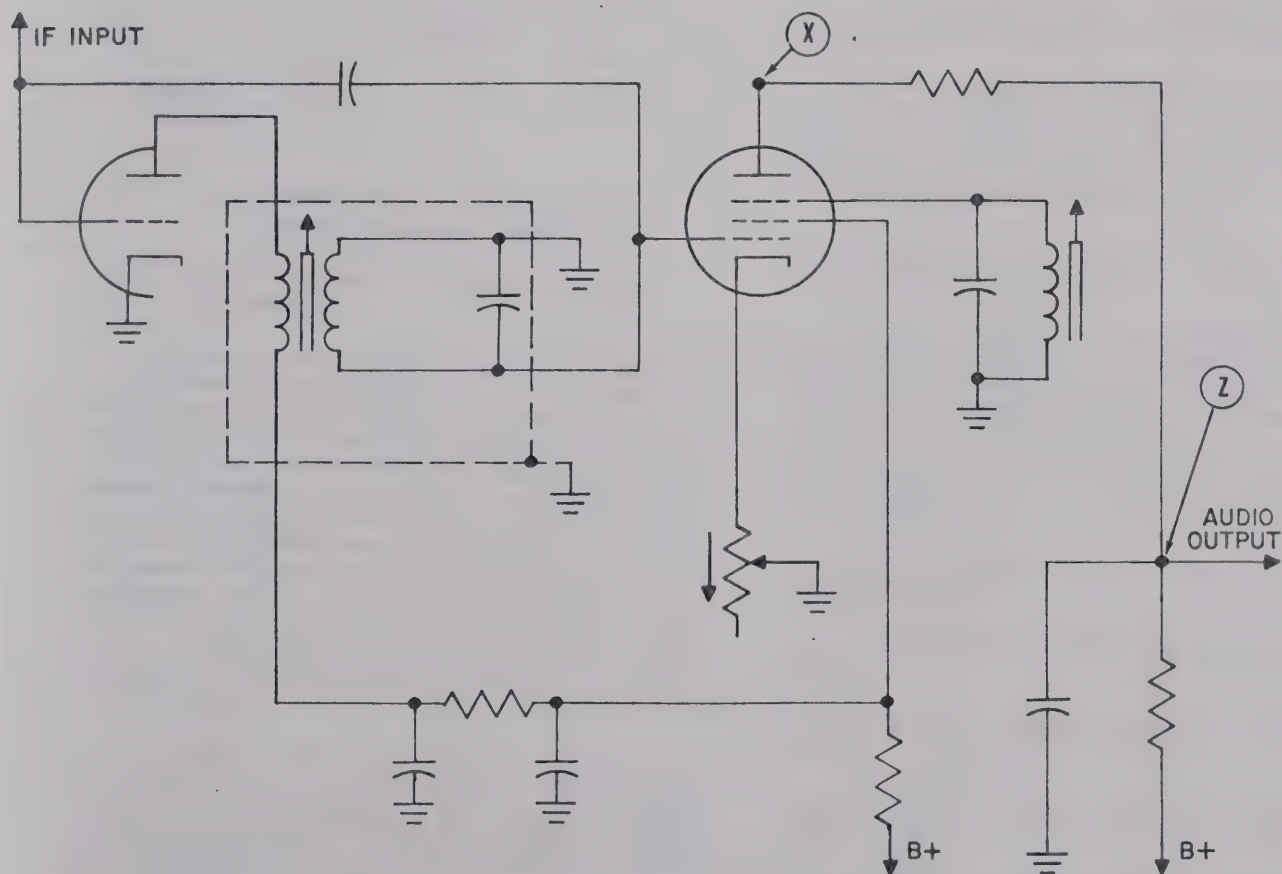

Figure 2-12. Typical Sound IF Amplifier and Quadrature Detector
k. Connect the vertical input probe of an oscilloscope to point "Z" in figure 2-12. Set the oscilloscope controls for maximum vertical gain.